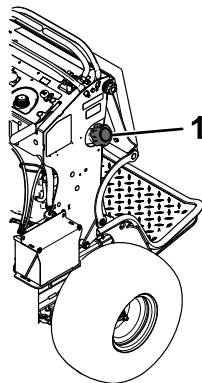

Figure 47
3. Clean around the fuel cap to prevent debris from getting into the fuel tank (Figure 47).